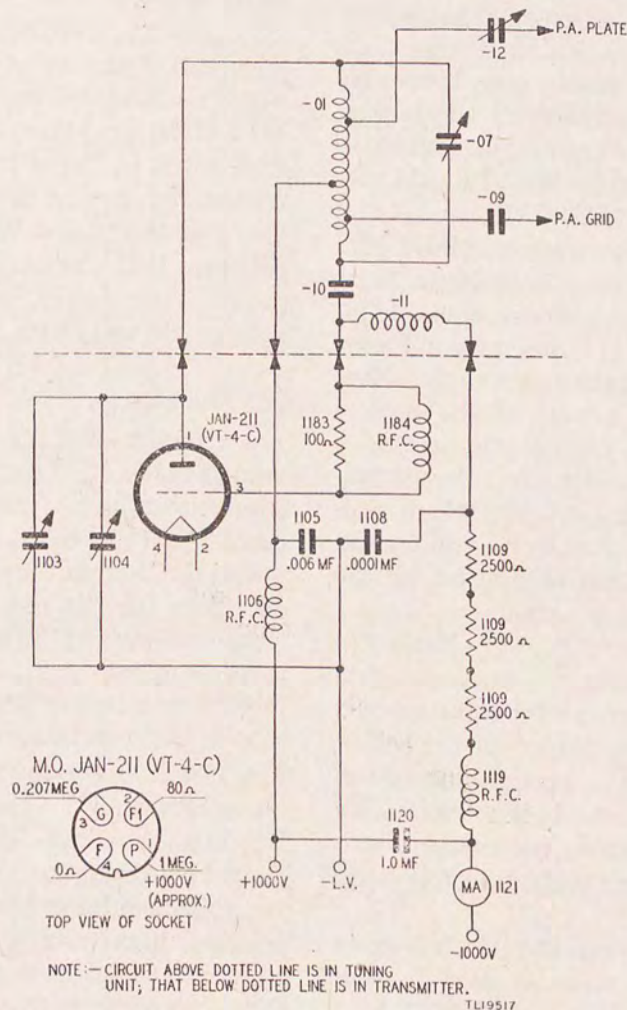

Figure 14. Master oscillator circuit diagram and voltage and resistance measurements.
*b. RESISTANCE AND VOLTAGE MEASUREMENTS.* Make the resistance measurements, shown in figure 14, from the tube-pin connections to ground and from the top of the socket with the tube removed. The plate voltage given at the tube-pin connection in figure 14 cannot be made at that point with the set in operation, because the socket pin is not accessible. Test under the following conditions:
### c. PARTS DATA (fig. 14).